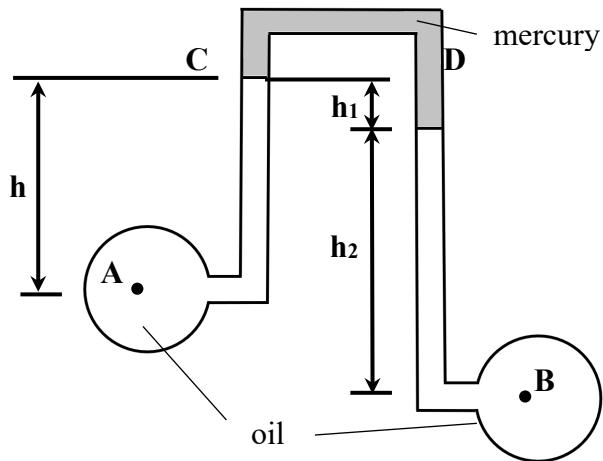

Figure 2(c) / Rajah 2(c)
- (c) The Figure 2(c) below is used to measure difference in pressure between two pipes. Given the relative density of oil and mercury which are 0.83 and 13.6 respectively, pressure difference is 1.54 kN/m^2 , $h_1 = 40 \text{ cm}$ and $h_2 = 73 \text{ cm}$. Calculate: